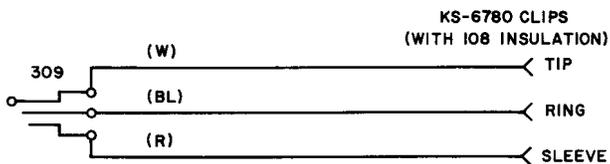

Fig. 2—3W6A Patch Cord
2.04 The interconnecting cables and a power cord are furnished with the set. Two general purpose patch cords, 3W6A, are furnished for making connections to a single line (Fig. 2). An optional patching cord, 3P3A, is available for use in No. 5 Crossbar offices when the offices are equipped with the No. 7A Service Observing Set patching panel.
- (a) For 2-wire loop signaling offices, connect one of the 3W6A patch cords (Fig. 2) to the A1 jack. Connect the tip, ring, and sleeve clips to the T, R, and S leads of the line at the distributing frame or at any other convenient clip-on points.
- (1) In panel and No. 1 Cross bar offices, the existing 4P9A patch cord (19 feet 6 inches shoe-ended) at the VIDF can plug into jacks A0-B0.
- (2) In 2-wire No. 1 and No. 5 Crossbar offices, the existing 4P16A and 3P34A patch cords, respectively, (7 feet, shoe-ended) used at the line link frame and the existing 4P18C or D patch cord at the service observing patch panel can plug into the A0-B0 jacks.
- (3) In 4-wire No. 5 Crossbar offices, the existing 5P6A patch cord (7 feet shoe-ended) at the line link frame can plug into the A2-B2 jacks.